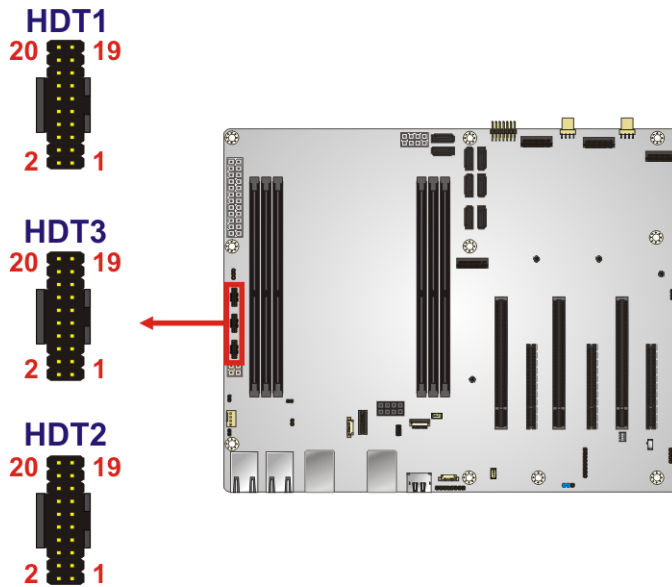

Figure 3-5: CPU Debug Connector Locations
- CN Location:** See **Figure 3-5**